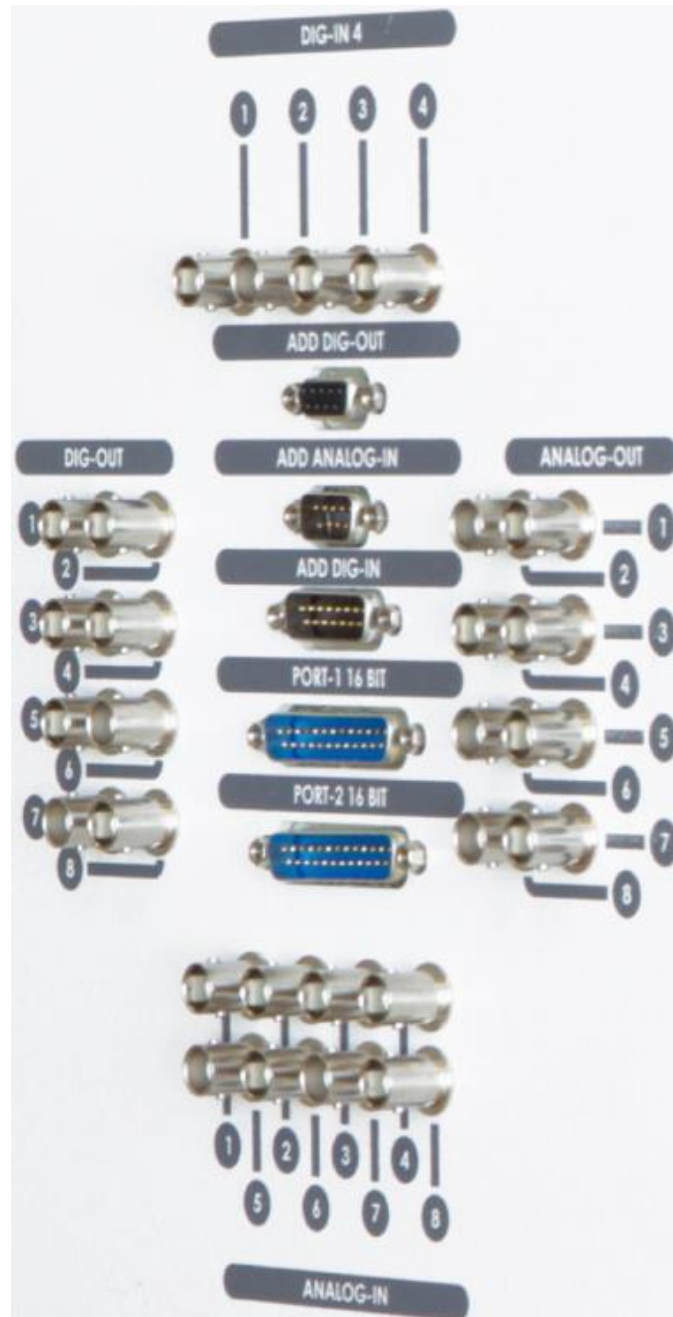

Figure 3: ADIO Panel
- On the left is the Analog/Digital Input/Output panel (ADIO panel) (*Figure 3*), which houses the external connections, through BNC and D-Type, as follows: